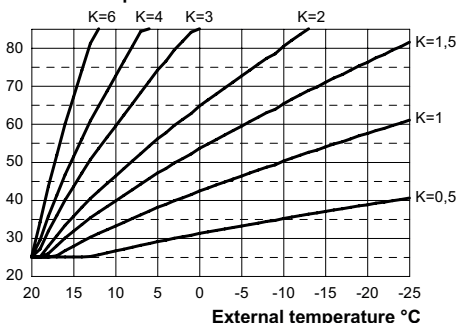

Fig. 8.6
If the boiler is **EQUIPED** with the remote control (optional) refer to Fig. 8.6. In this case K setting must be done from the remote control.
The K coefficients is a parameter that increases or reduces the boiler flow temperature when the outside temperature changes. When installing the external probe it is necessary to set this parameter based on the efficiency of the heating system in order to optimise the flow temperature (Fig. 8.6).
E.g. In order to have a flow temperature at the heating system of 60°C with an external temperature of -5°C, set a K at 1.5 (sectioned line in Fig. 8.6).
- Using keys 16 or 17 it is possible to change the value of parameter 15 from a minimum of **01** to a maximum of **60** based on the selected bend of the K coefficient in Fig. 8.6 (the value read on the display corresponds to K coefficients decimal values). The writing **P15 - Set** alternates on the dis-